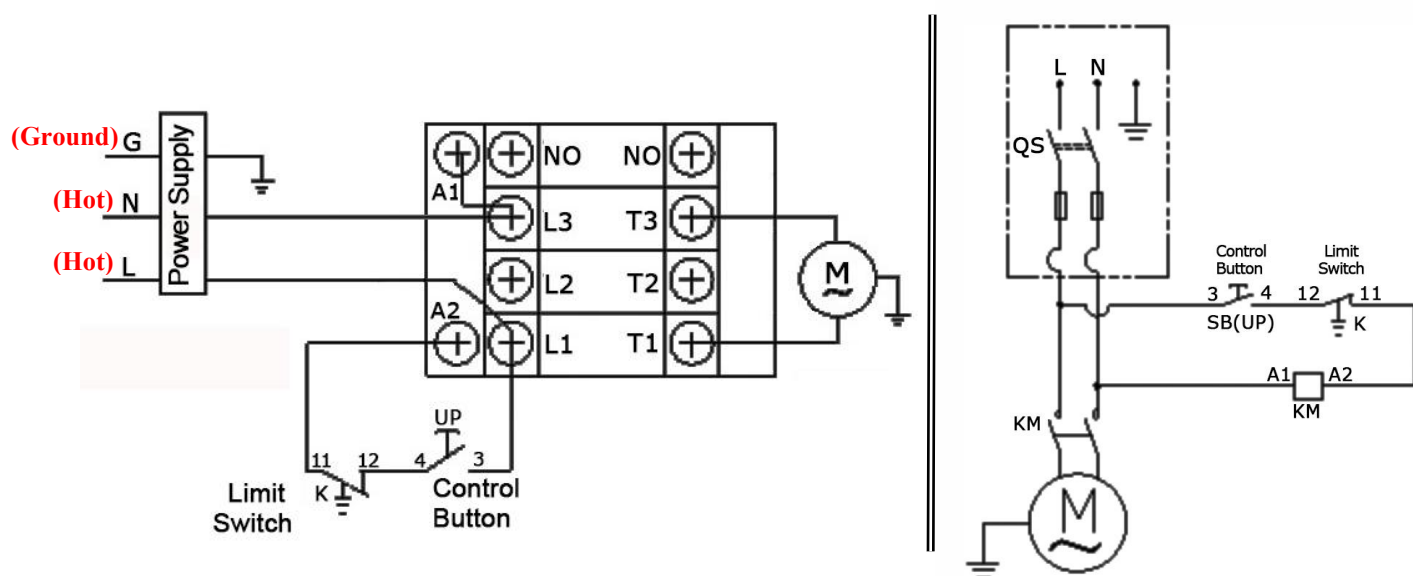
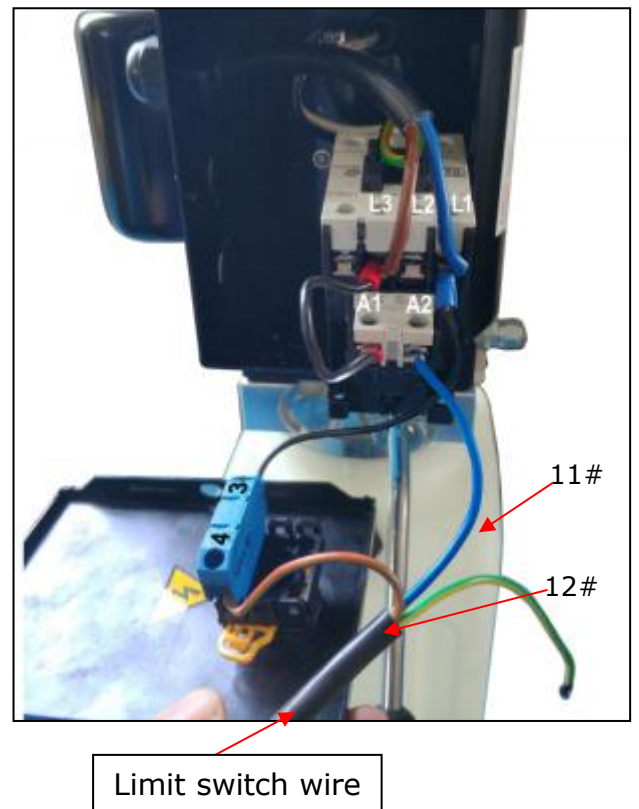

Fig. 38
Fig. 40
4. Connecting Limit switch: Remove the line of connecting terminal 4# of control button and A1 of AC contactor (see Fig.38). Connecting wire 12# (brow wire) of limit switch with terminal 4# of control button; Connect wire 11# (blue wire) with terminal A1# of AC contactor. Connecting the yellow and green wire to the terminal earth wire of limit switch and terminal earth wire of power unit. (see Fig.40)